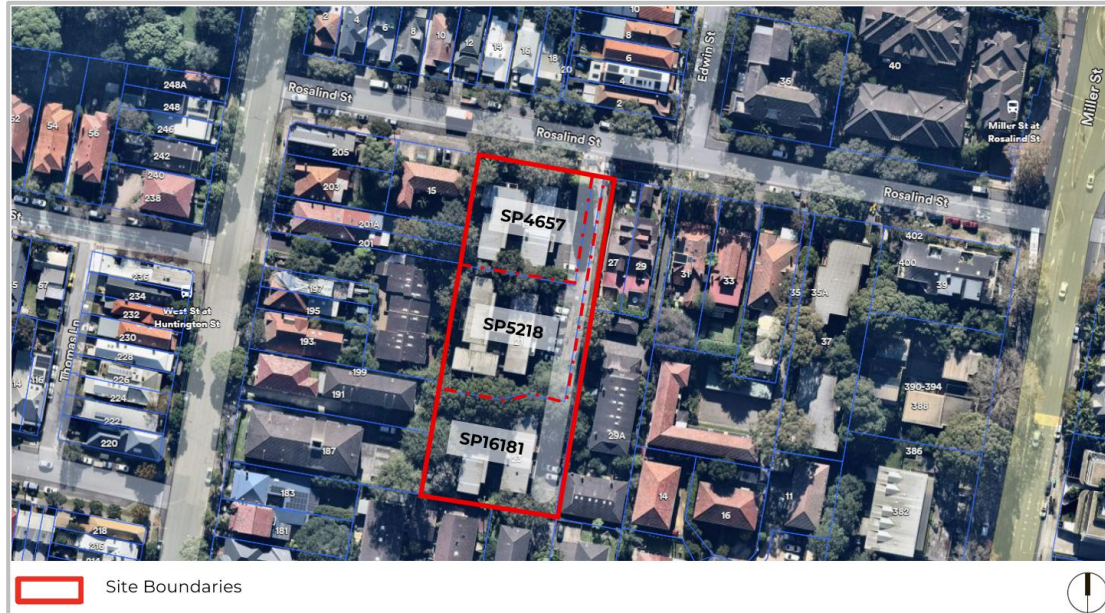

Figure 1. Site aerial - Source: Nearmap/Colliers Urban Planning
The site is located at 19–23 Rosalind Street, Cammeray NSW within the North Sydney Local Government Area (LGA). It comprises three (3) allotments legally described as SP4657, SP5218 and SP16181, and occupies a total area of approximately 4,100m2. A site aerial showing each allotment is provided at Figure 1. Each respective lot currently comprises a three (3) storey residential flat building with the two (2) of the rear buildings situated on battleaxe allotments connected to Rosalind Street.